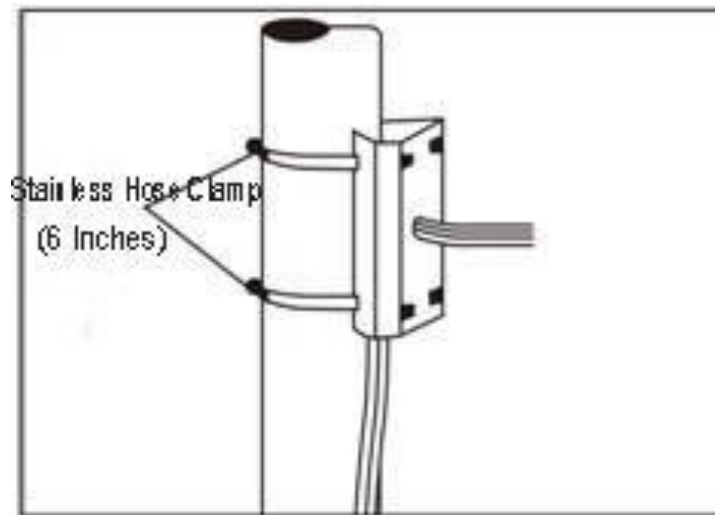

Fig 16
a. As shown in fig 16, use the stainless hose clamps to fix the pole mounted attachment with all cable through it on the pole structure.